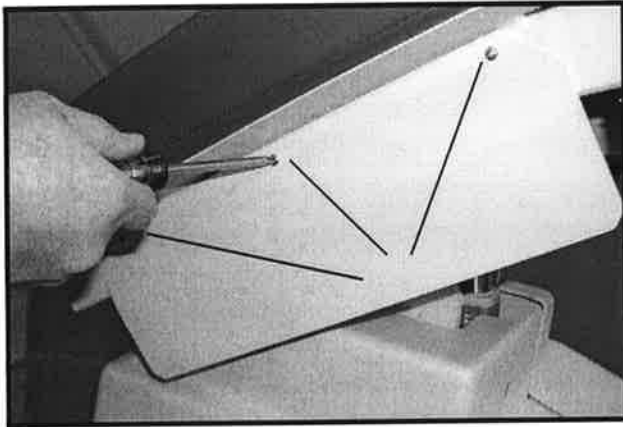
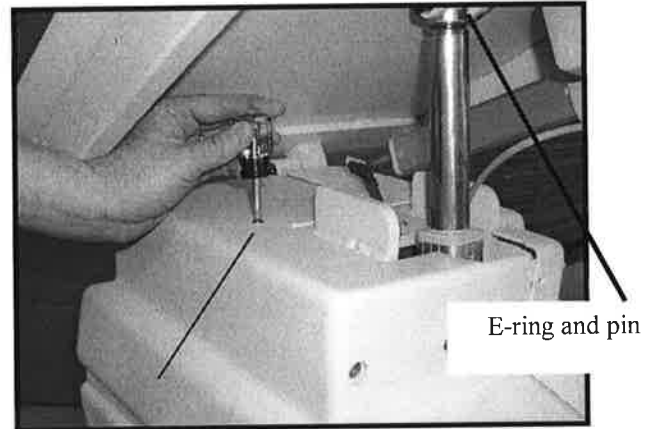

Figure 1
Figure 2
- 1) Remove both chair side panels by removing the three phillips head machine screws on each, (figure 1). If the tilt motor is functional, put the chair in full tilt. If it is not functional, reach up from the toe of the chair with a pair of needle nose pliers and remove the E-ring holding the horizontal pin at the end of the motor shaft., (figure 2). Wiggle the footrest up and down as you push the pin out toward the patient's right side. If the pin does not move proceed to the patient's left side of the chair, where there is a hole in the frame that you may use a 3/8" round rod to knock out the pin. After removal of the pin, tilt the chair top backward, using an assistant to hold the chair top from falling all the way back, or carefully rest the top of the chair on the floor using a cushion for protection.
- 2) Remove the decorative vinyl strip from around the middle of the plastic base cover. With a short phillips screw driver, take the (3) small flat head phillips screws holding the two base cover halves together on both ends. Remove the single phillips screw from the top surface of the right hand base cover only, (figure 2). Remove the cover.